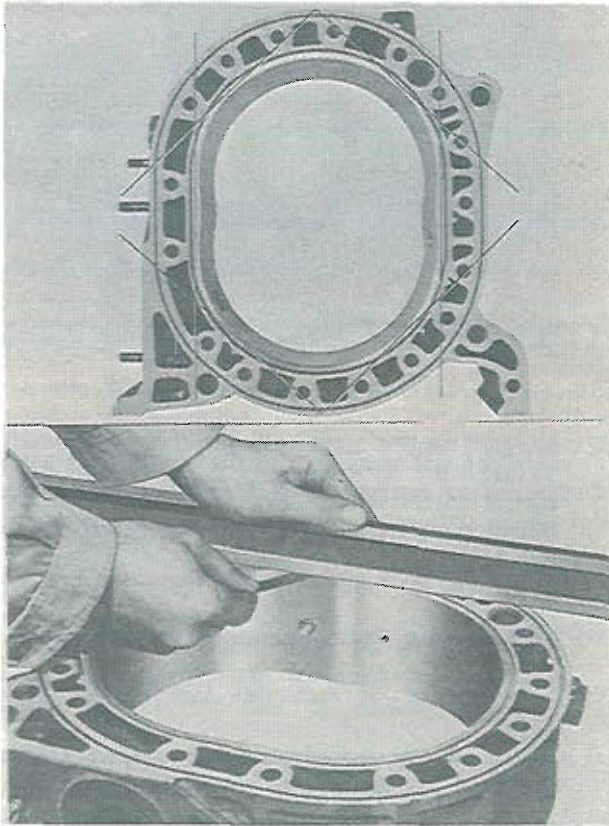

Fig. 1-37 Checking distortion
6. Check for rotor housing distortion by placing a straight edge at the position shown in Fig. 1-37. Measure the clearance between the straight edge and rotor housing surface with a feeler gauge. If the distortion exceeds **0.04 mm (0.0016 in)**, replace the rotor housing.